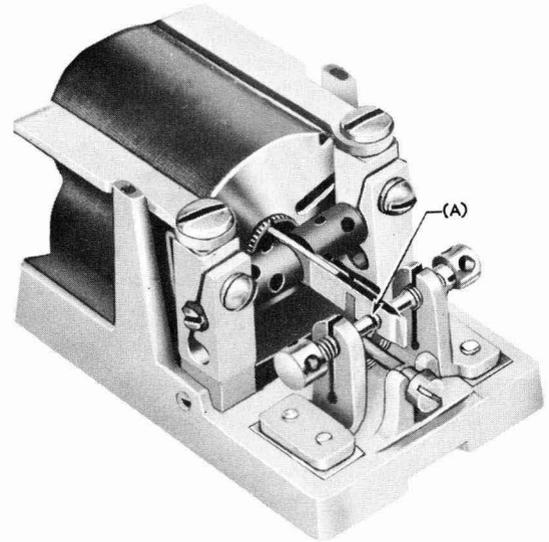

Fig. 2—280-type Relay
- 1.05 **Contact Travel: Fig. 2(A)**—Min 0.004 inch, max 0.006 inch. Check travel on each contact screw. A difference indicates build-up on contact on side of armature having smaller travel. Remove build-up. 74D gauge.